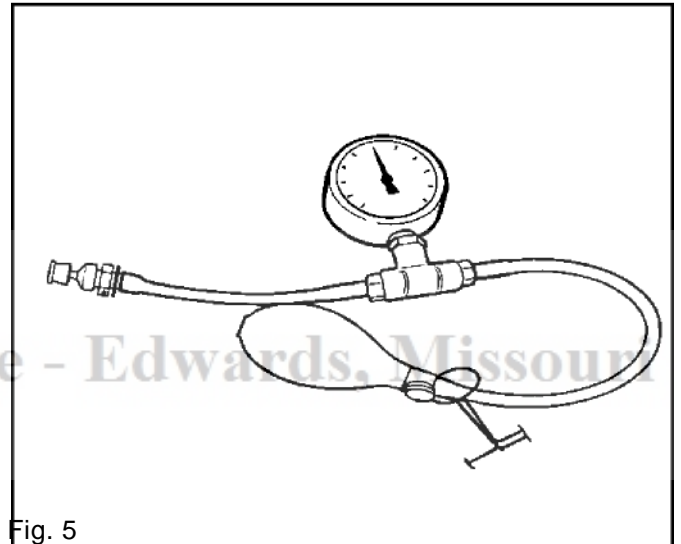

Fig. 5
8. Refit the bolt (F) on the flywheel side. See fig. 5. Tighten to 6 Nm.
8. Pressure test the decompression valve as follows. See also fig. 5.